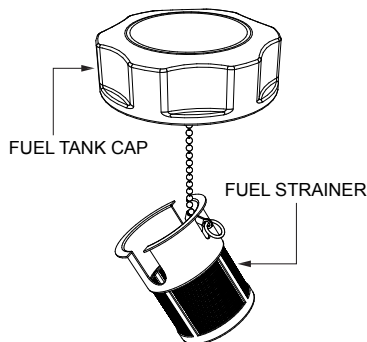

Figure 36. Fuel Strainer
3. Next, remove, inspect and clean the fuel strainer (Figure 36) with solvent.